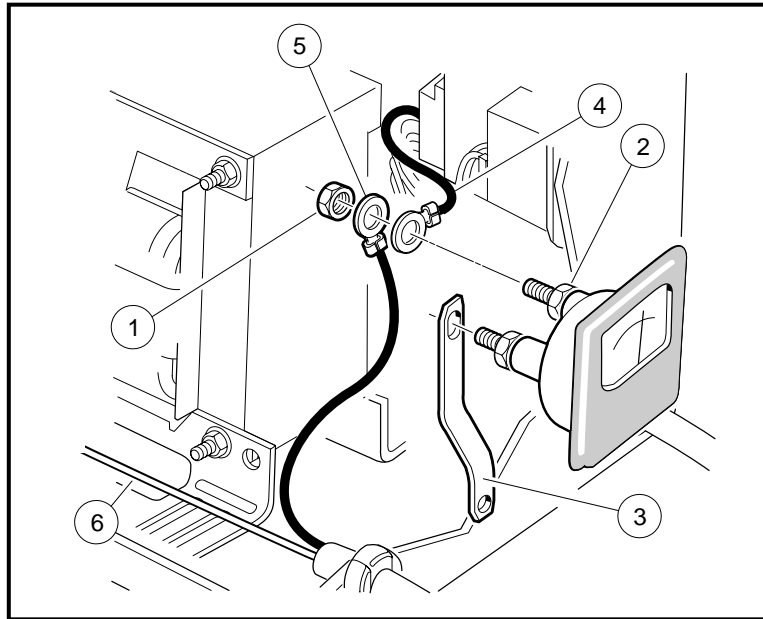

Figure 14-15 DC Cord
1. Disconnect the black wire (5) of the DC cord from the ammeter, and disconnect the white wire of the DC cord from the heat sink assembly (**Figure 14-15, Page 14-15**).
2. Attach alligator clip of continuity tester to the white wire (6) of the DC cord (**Figure 14-15, Page 14-15**).
5. Attach alligator clip to the black wire (5) of the DC cord and then place the probe on the negative (-) blade of the DC plug (**Figure 14-15, Page 14-15**). The tester should indicate continuity. Place the probe on the positive (+) side. The reading should be no continuity. If the readings are not correct, the cord and plug must be replaced.
2. Disconnect the black lead of the DC cord from the ammeter by loosening the nut (1). Support the terminal as the nut is loosened to prevent rotation of the connection. Leave the black wire from the electronic timer (4) on the terminal post (**Figure 14-15, Page 14-15**).
3. Make sure the black wire (4) of the electronic timer is on the ammeter post. Attach the black lead (5) of the new cord and tighten nut (1) on the post until finger tight (**Figure 14-15, Page 14-15**). See following **CAUTION**.
4. While holding the outside of the nut (1), turn the inside nut (2) counterclockwise 1/4 turn (**Figure 14-15, Page 14-15**). See previous **CAUTION** and following **NOTE**.
- CHECK THE POSITIONS OF THE TERMINALS TO MAKE SURE THEY ARE NOT TOUCHING THE AMMETER BUS BAR (3) OR THE AMMETER POST (**FIGURE 14-15, PAGE 14-15**).